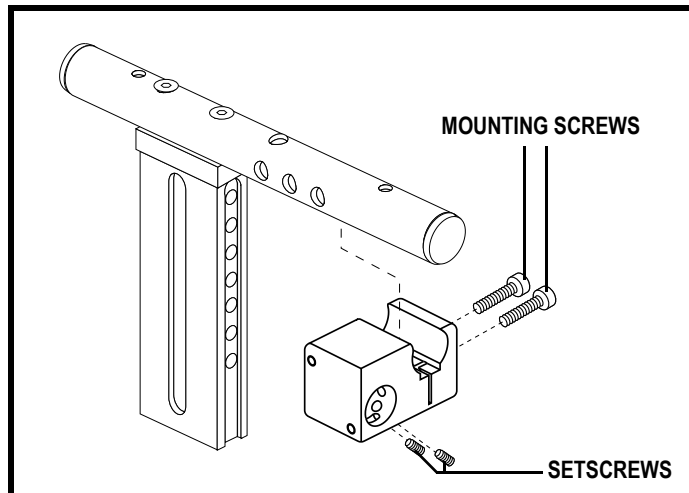

Figure 14. Controller Mounting Block
You can move the controller in toward or out away from the armrest, or change the position of the controller for either left-hand or right-hand use. See figure 14.
4. Loosen the mounting screws in the controller mounting block. See figure 14.